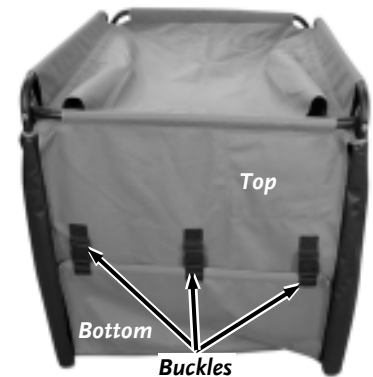

Figure 84
2. Unlatch the Buckles that secure the top and bottom Doors (**Figure 84**).